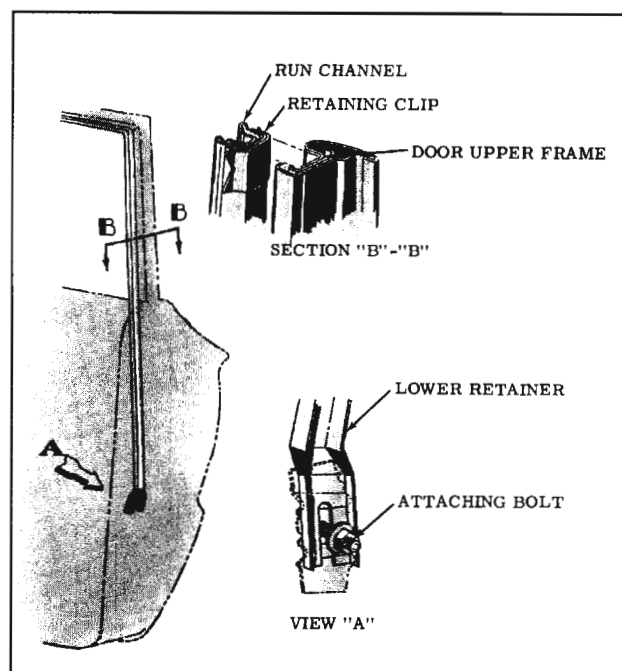

Fig. 16-60 Rear Glass Run Channel ("19" Style)
1. Raise door window, remove door trim assembly and detach inner panel water deflector sufficiently to gain access to rear glass run channel lower attaching nut. Remove nut and disengage lower end of run channel. (Fig. 16-60)